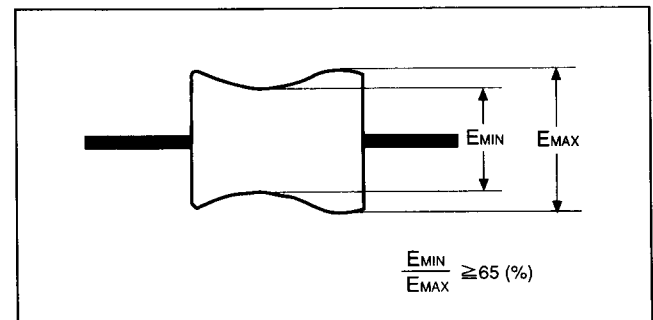

Fig. 32
- 2) Confirm that the minimum amplitude (E_{MIN}) of the RF waveform is 65 % or more of the maximum amplitude (E_{MAX}). (Refer to Fig. 32)